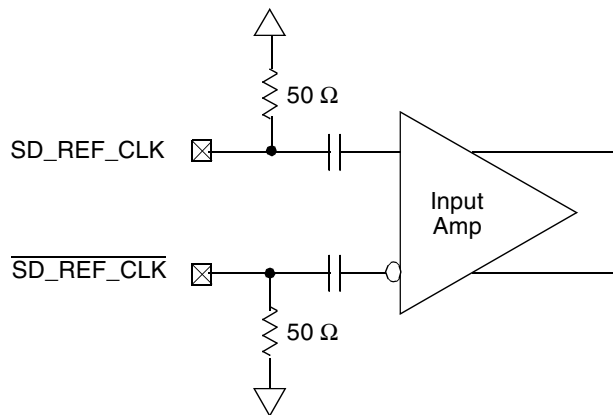

Figure 40. Receiver of SerDes Reference Clocks
Figure 40 shows a receiver reference diagram of the SerDes reference clocks.
- The `SD_REF_CLK` and `SD_REF_CLK` are internally AC-coupled differential inputs as shown in Figure 40. Each differential clock input (`SD_REF_CLK` or `SD_REF_CLK`) has a 50- Ω termination to SCOREGND followed by on-chip AC-coupling.